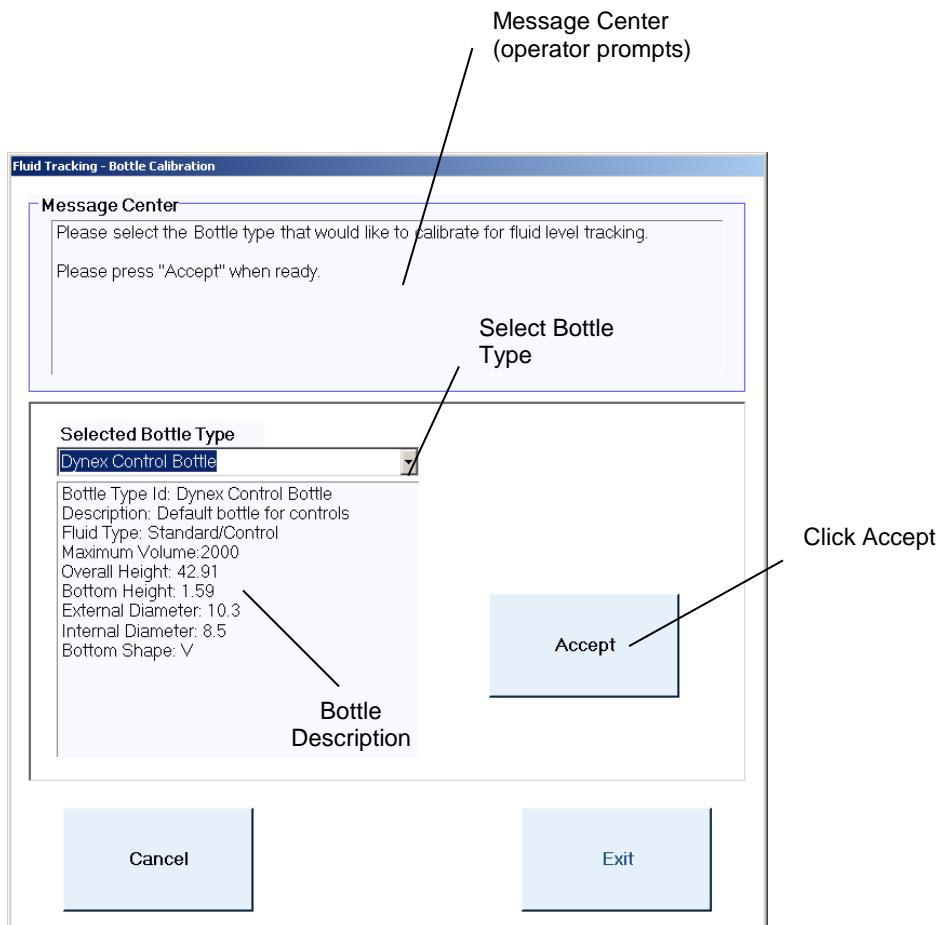

Figure 4-26: Fluid Tracking Calibration Start Screen
1. To start the fluid level tracking calibration, click Tools > **Fluid Level Tracking**. The DS2 will provide detailed instructions on the completion of the calibration routine in the Message Center text box in the instruction screens (Figure 4-26)